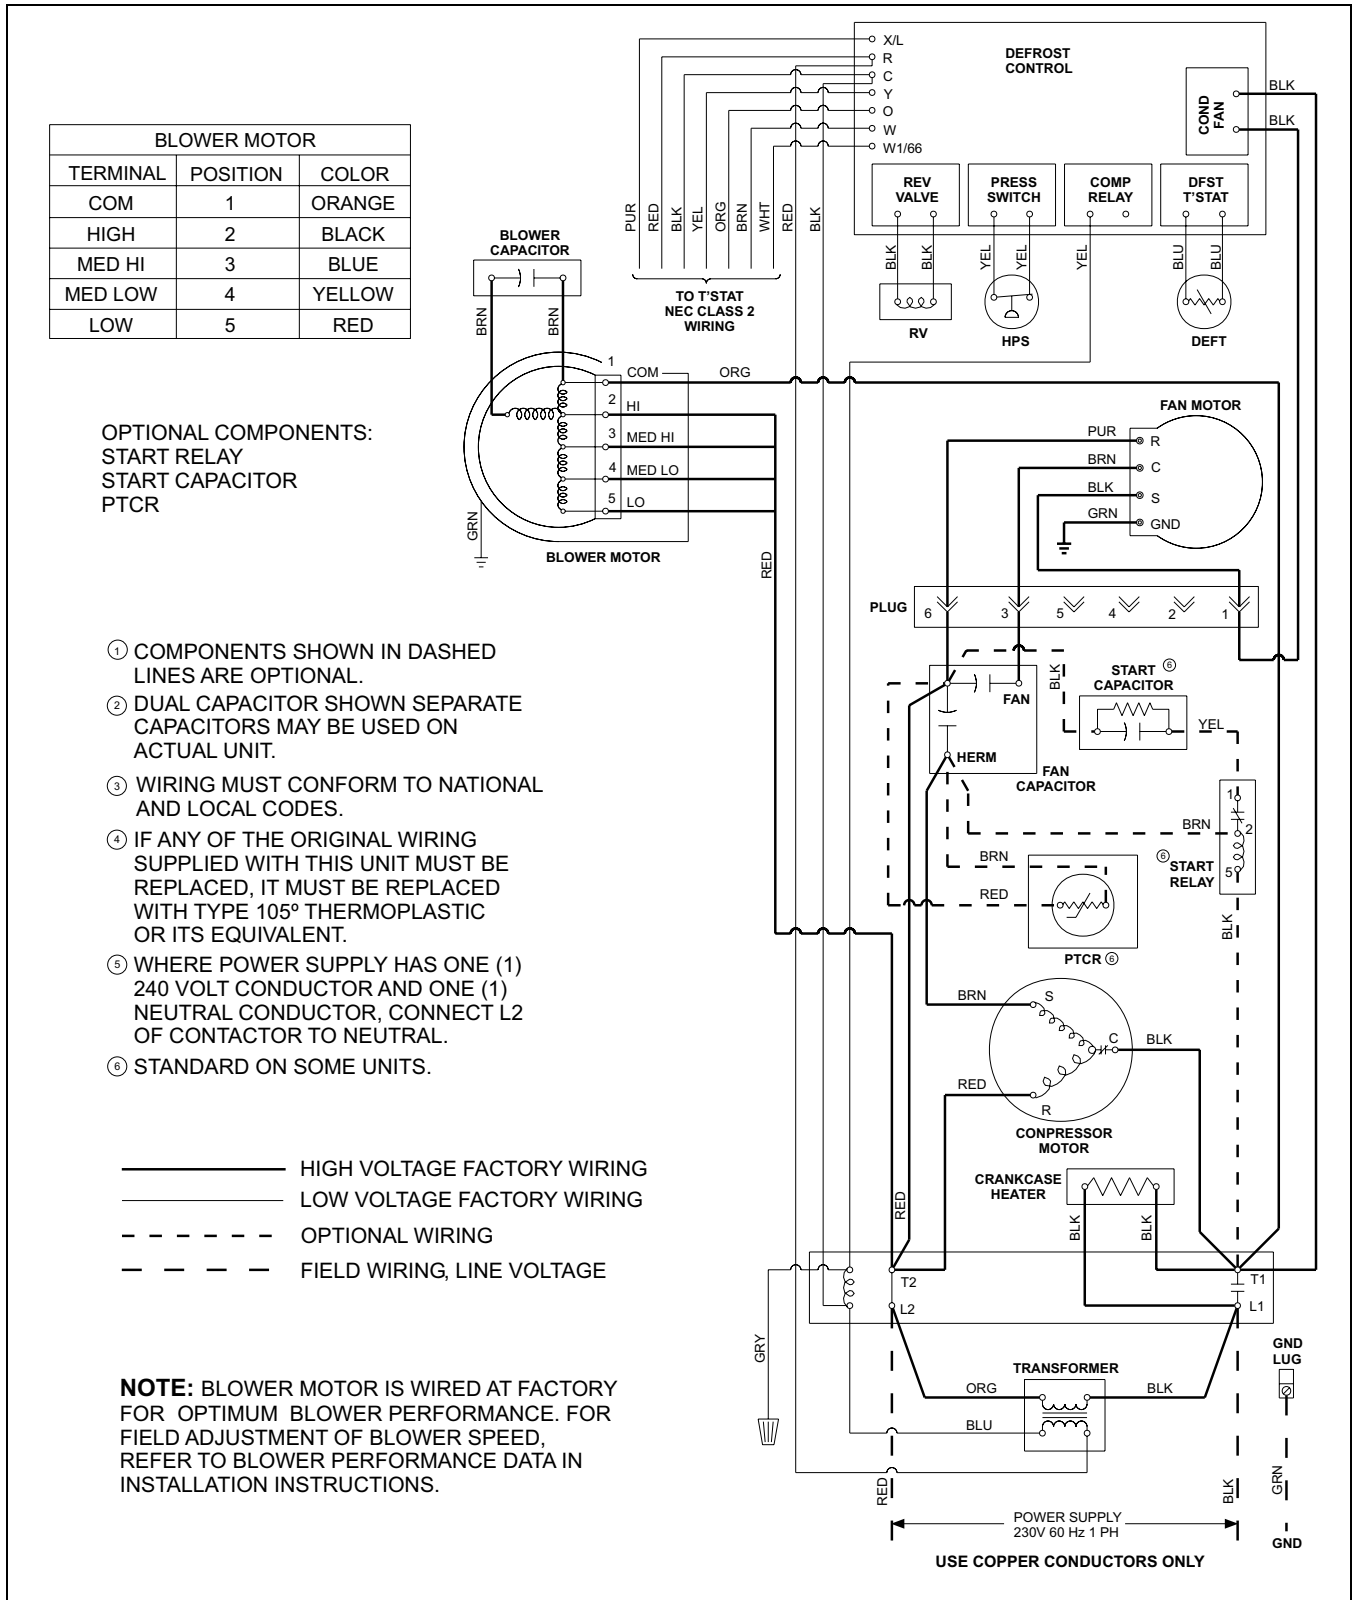

FIGURE 8
4. Attach the brown lead wire from the starting kit relay #2 to the same terminal on the run capacitor that was located in Step 3. See Figure 8.
NOTE: The wiring of the capacitor and relay must agree with Figure 8. Also, see diagram on control box cover.